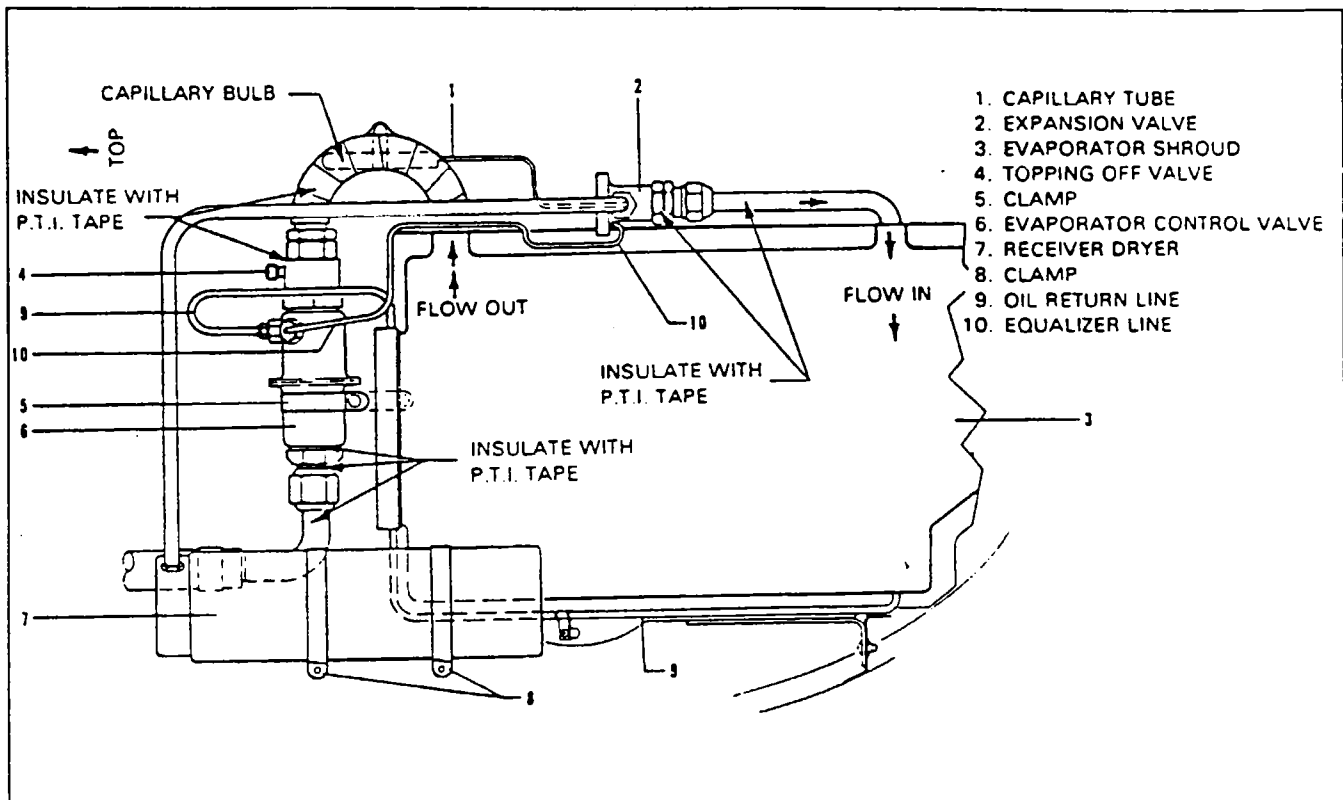

Figure 21-33. Component Installation
1. Install the expansion valve to the evaporator and secure the capillary tube to the evaporator outlet line and apply Presstite insulating tape. (Refer to Figure 21-33.)
1. Install the evaporator control valve into the airplane as shown in Figure 21-33 and secure it to the evaporator with the existing clamp and connect the freon lines to the valve.
2. Apply the Presstite insulating tape around the valve and related lines as shown in Figure 21-33.
2. Install the expansion valve and evaporator control valve to the evaporator shroud as shown in Figure 21-33.